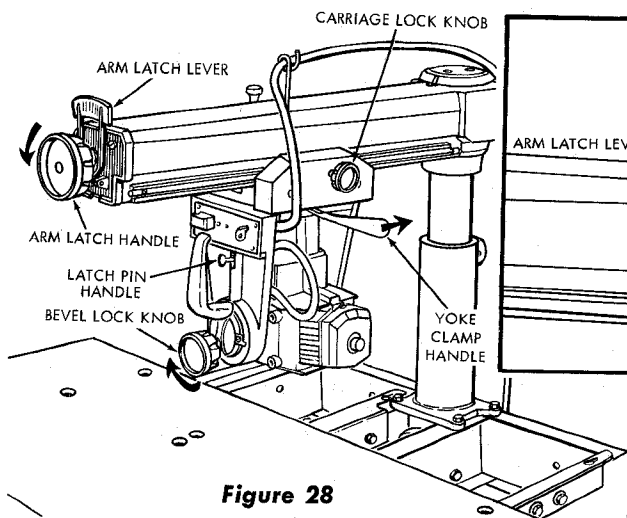

Figure 28
- c. Rotate the arm latch handle (knob) 1/4 turn counterclockwise. (See figure 28.) Make sure the yoke clamp handle and bevel lock knob are tight.
- CAUTION:** When moving the radial arm in any direction beyond 45° (left or right) always pull out the arm latch lever (figure 28) or loosen by rotating the arm latch handle (knob) counterclockwise until it stops, to prevent damaging the arm lock pin. If damage occurs, the radial arm will not index properly at 0° and 45°, left or right.
- e. Tighten the arm latch handle (figure 28). (Refer to paragraph entitled "Precision Indexing" for detailed instructions on indexing the radial arm.)